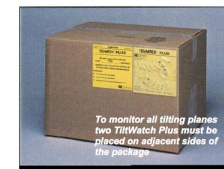

Fig 4.
3. Remove the TiltWatch Plus Companion Label from its adhesive liner and place it next to the TiltWatch Plus (Fig 4)